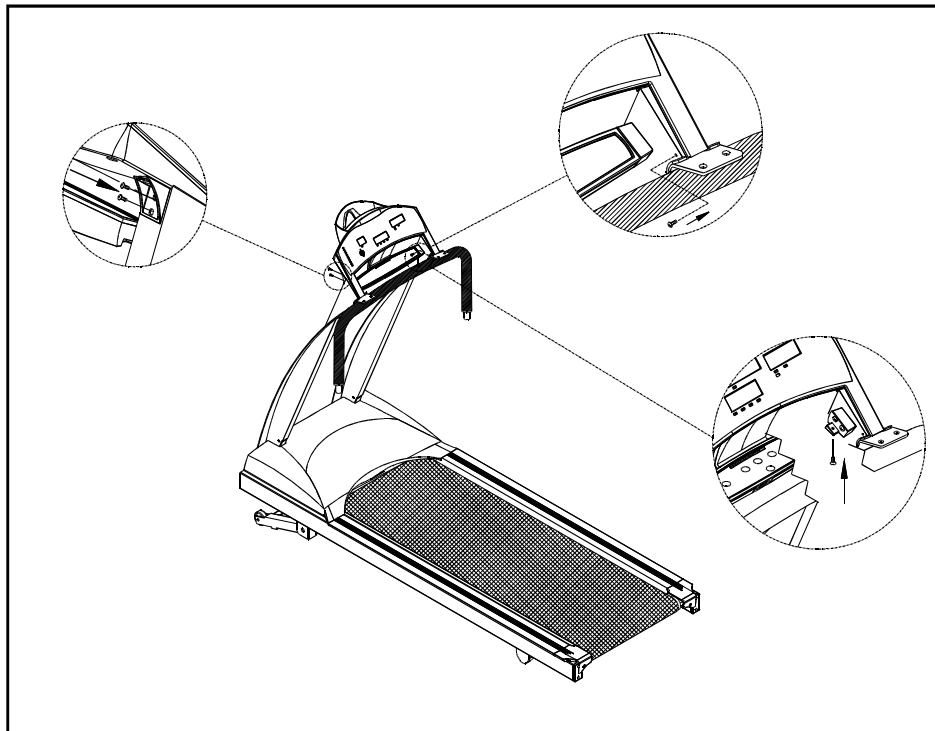

Fig.6
8. Insert the electronics display into the slots on the side posts. Use the screwdriver to tighten all screws securely (see the Fig 6 Highlight). Lastly tighten all the screws on each post.